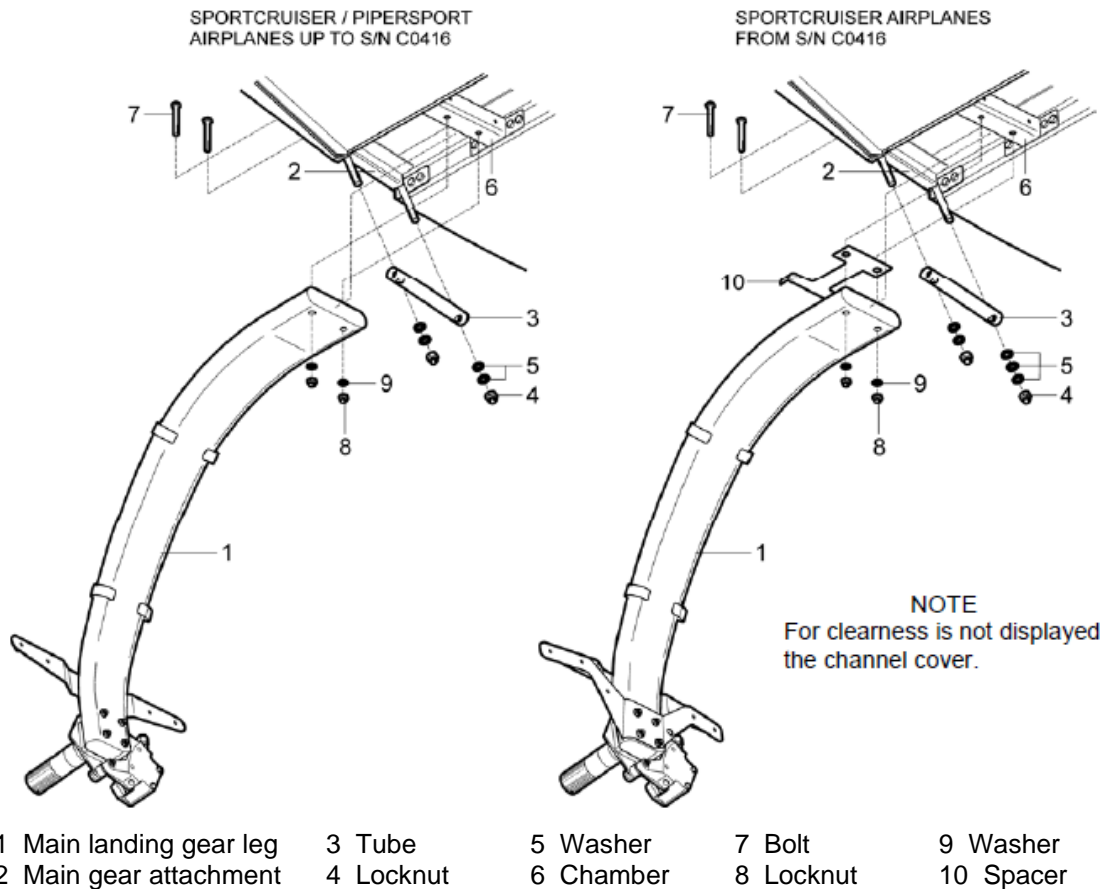

Fig.1 Main landing gear leg
- 2.3 When the leg is inserted / pushed into the final position, drill two holes \varnothing 8 mm for bolts (7) in the main landing gear attachment (2) and spacer (10), see Fig.1 above.